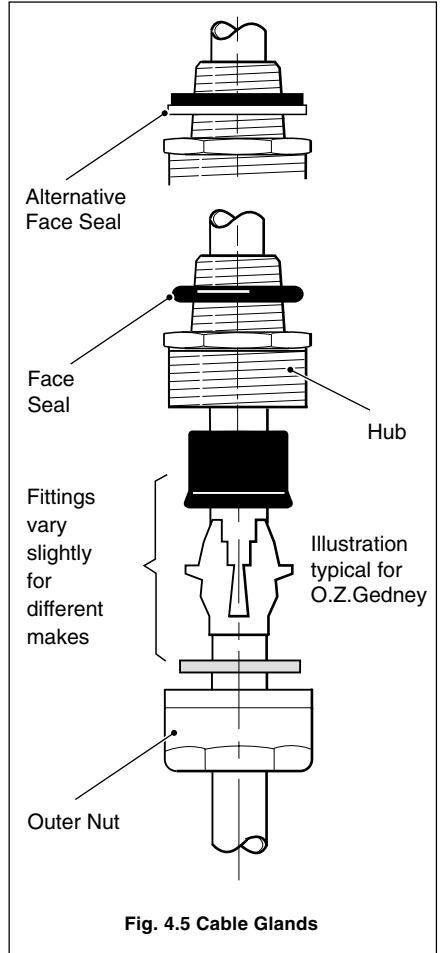

Fig. 4.5 Cable Glands
4.4.3 Cable Glands (N. American – 0.5in) – Fig. 4.5